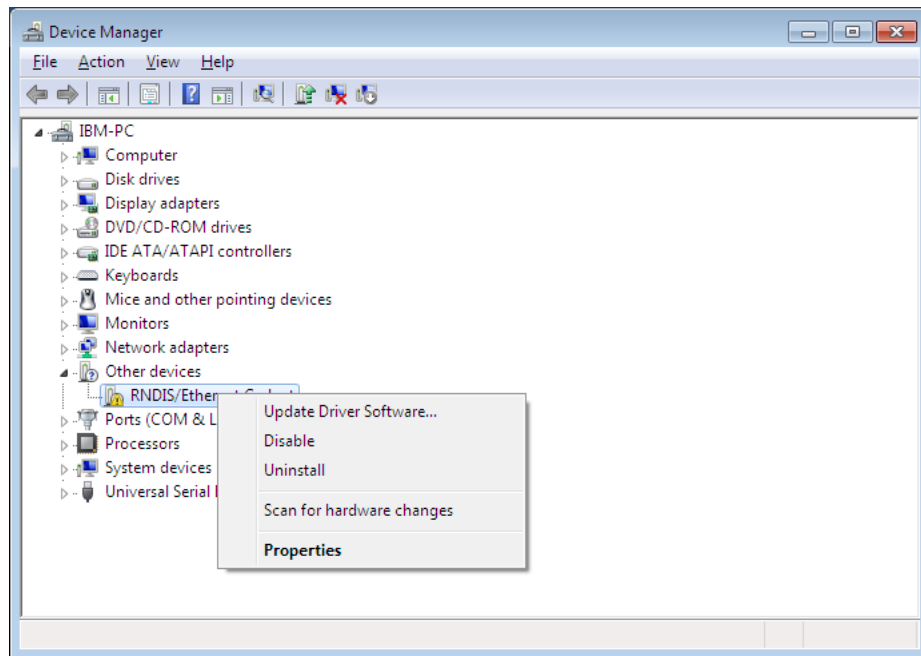

Figure 17. Device Manager Window
3. Expand **Other devices** and select **RNDIS/Ethernet Gadget** (see Figure 17).